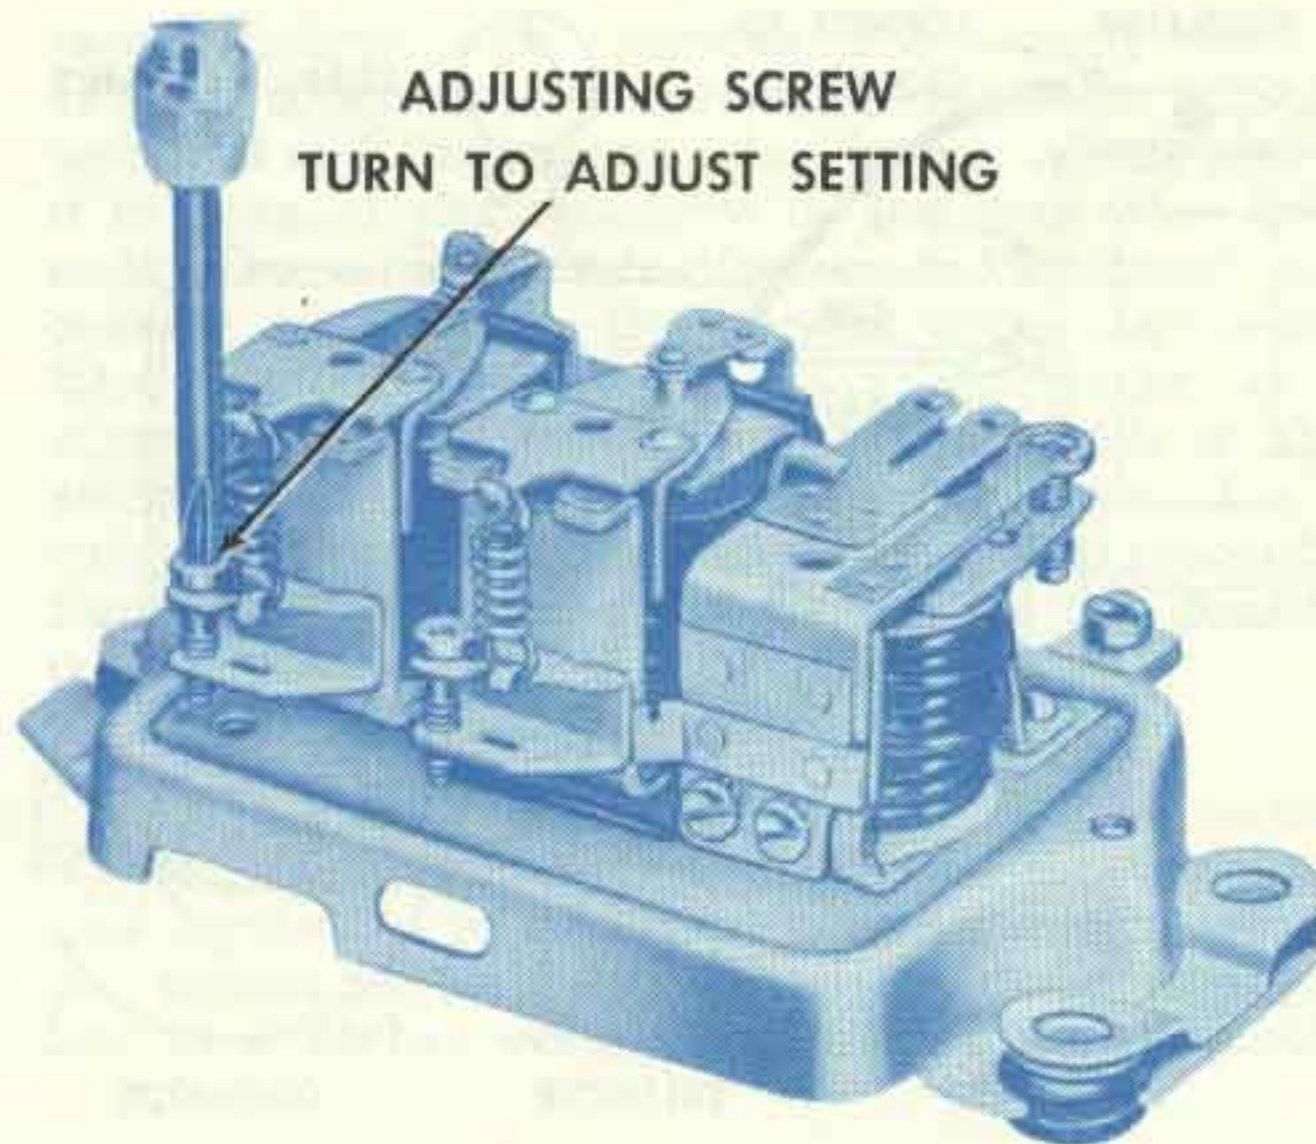

Figure 6—Adjusting voltage regulator setting.
5. To adjust voltage setting turn adjusting screw (Fig. 6). Turn clockwise to increase setting and counterwise to decrease voltage setting.
5. Adjust in same manner as described for the voltage regulator (Fig. 6).